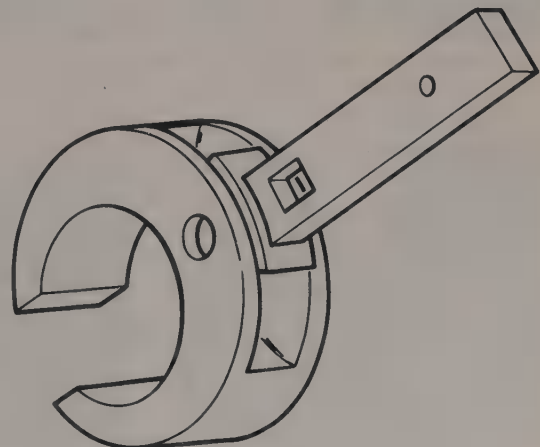

Fig. 10.20 Peugeot tool for unscrewing the track rod inner balljoint (Sec 23)
- 3 Unscrew the balljoint from the rack. The Peugeot tool for this is shown in Fig. 10.20, and if necessary a similar tool may be made from steel plate. Alternatively, use a pair of grips.